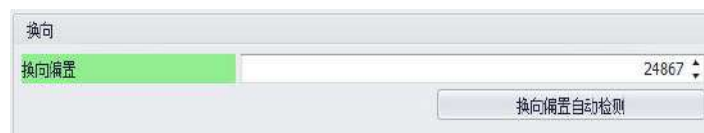

Figure 4-11 Completion of automatic commutation offset detection
2. Wait for about 5 -10 seconds. The status turns green, as shown in figure 4-11, which indicates that the zero point calibration is completed.